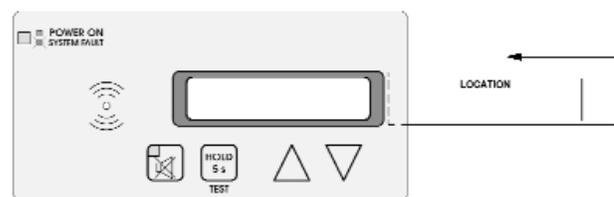

Figure 36: Annunciator Module Location Label
2. Slide location label into pocket in front of annunciator module (Figure 36).